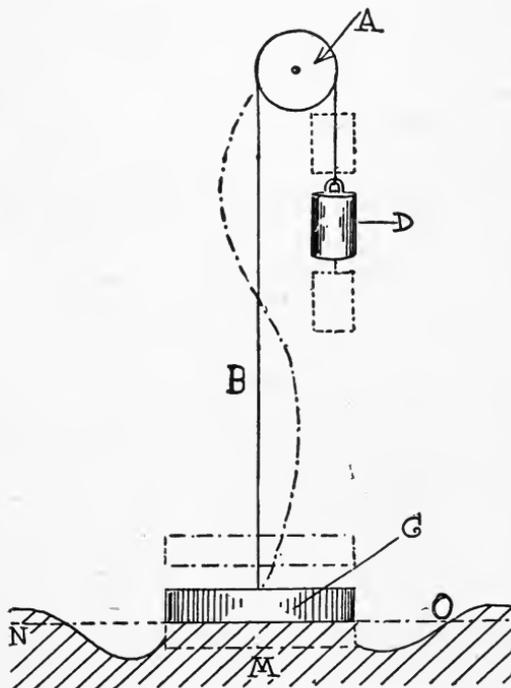

FIG. 125.
**226.** Fig. 125 represents a pulley  $A$ , over which, lies a thin wire  $B$ , one end of which, is connected to a circular